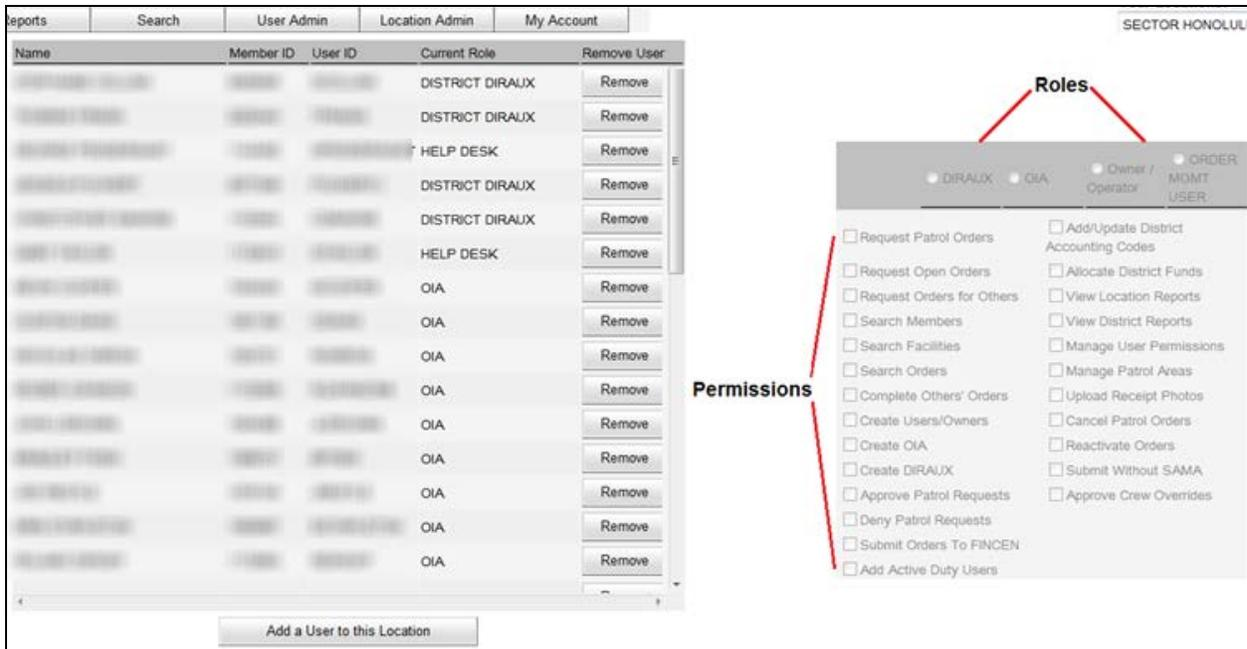

Figure 2-21 User Admin Screen
1. In the list of names on the User Admin screen (see Figure 2-21), click the **Remove** button beside the *{user}* to be deleted.
The User Admin can add or delete specific permissions for individual users. Selecting an existing user on the User Admin screen shows the user's current permissions in the box on the right of the screen, similar to Figure 2-21.